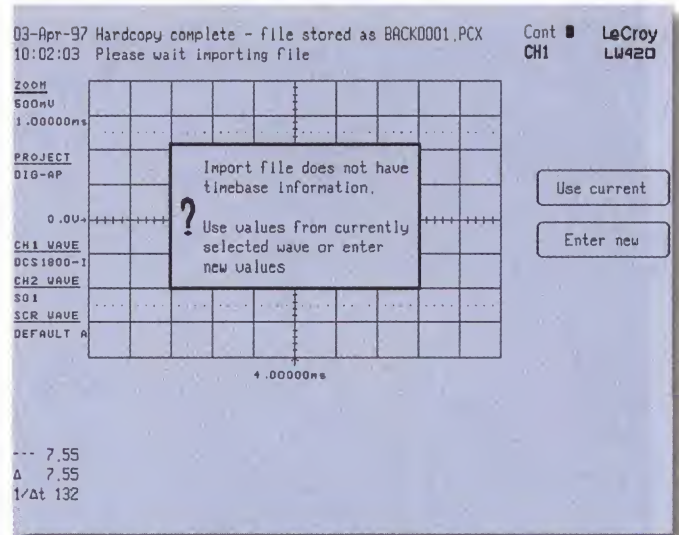

Figure 2
- 10) Press **Import** soft key. A message will appear requesting time base information. Press the **Use Current** soft key since the clock rate that determines the sample rate was set in step 3—see figure 2.